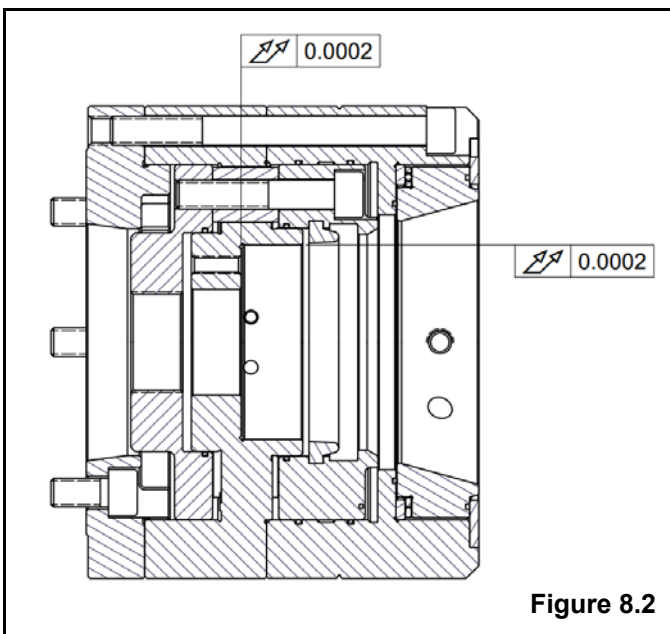
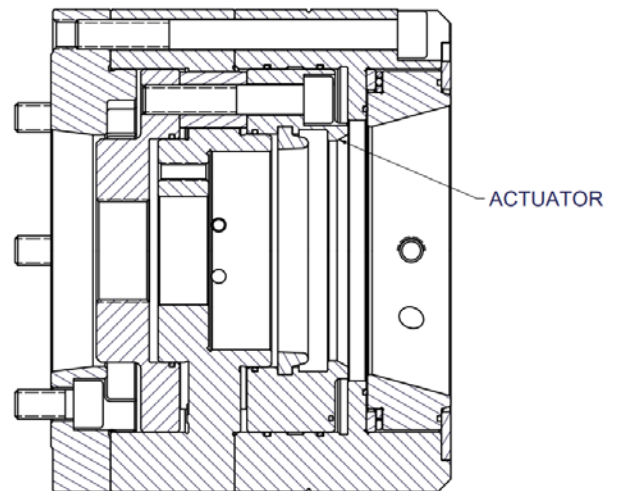
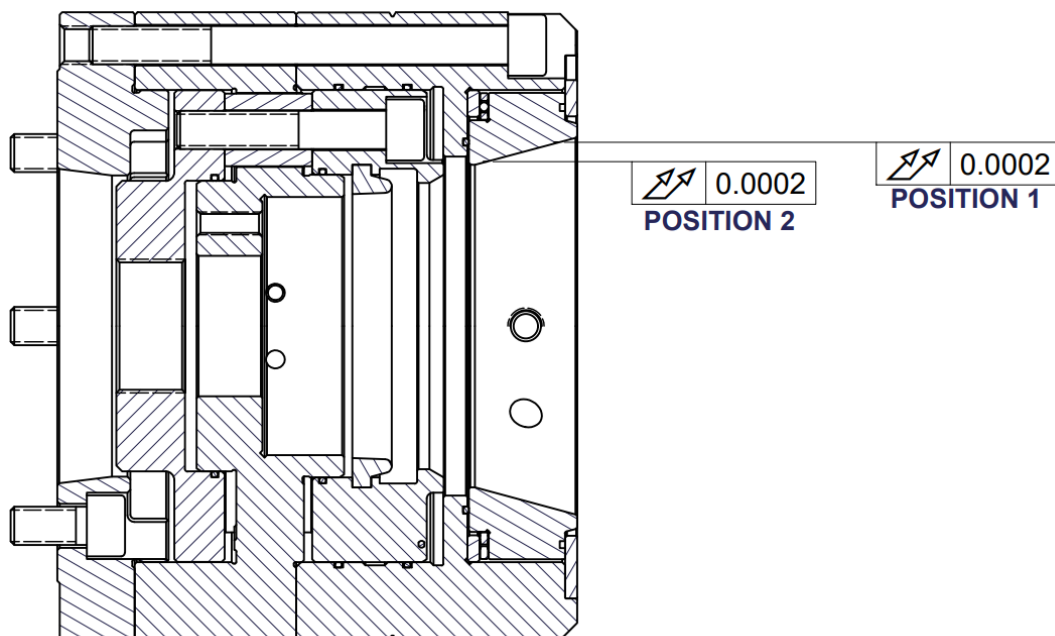

Figure 8.2
Figure 8.4
Figure 9.1
2. Make certain that the mounting surfaces of the chuck body and adapter plate are clean and free of nicks or burrs that could prevent the proper seating of the chuck body. Also make sure the (4) radial adjusting screws (item 25A in Section 12) are not protruding into the locating diameter of the chuck body.
6. Indicate the ID runout and runout of the mounting face of the stop plate adapter shown in Figure 8.2. Make adjustments to the (4) radial adjusting screws (item 25A in Section 12) so that the runout of the stop plate adapter is within .0002" (.005mm).
7. After the runout of the chuck assembly has been adjusted, tighten the mounting bolts to the torque specifications given in Section 4. Also make sure to tighten all (4) radial adjusting screws (item 25A in Section 12).
4. Actuate the draw tube to verify that the chuck is functioning correctly by measuring the stroke of actuator as shown in Figure 8.4.
1. Ensure the chuck is on center by indicating the ID runout and runout of the mounting face of the stop plate adapter shown in Figure 8.2. Make adjustments to the (4) radial adjusting screws (item 25A in Section 12) so that the runout of the stop plate adapter is within .0002" (0.005mm).
2. Remove pressure plugs (item 27 in Section 12) and loosen lock screws (item 23 in Section 12).
3. Indicate the ID runout of the collet taper as shown in position #1 in Figure 9.1. Make adjustments to the (4) locating keys (item 3 in Section 12) so that the runout of the collet taper is within .0002" (0.005mm).
4. Measure the runout of the collet taper on position #2 in Figure 9.1. If the chuck body is properly seated on the adapter plate, the runout measured on position #2 should be the same as position #1. If the runout measured in position #2 exceeds the runout of position #1 by more than .0001" (.0025mm), adjust locating keys. If necessary, remove chuck from the adapter plate and to ensure the chuck is properly seated.
5. After the runout of the collet taper has been adjusted, tighten the sleeve centering locating keys, tighten lock screws, and replace plugs (Items 3, 23, and 27 in Section 12). Also ensure the mounting bolts are tightened to the torque specifications given in Section 4. Also make sure to tighten the radial adjusting screws that adjust the chuck on the adapter (item 25A in Section 12).
6. Actuate the draw tube to verify that the chuck is functioning correctly by measuring the stroke of actuator as shown in Figure 8.4.
7. To convert the chuck back to a compensating collet chuck, unlock the sleeve by loosening both the locating keys (4) and lock screws (4). Replace plugs (4).